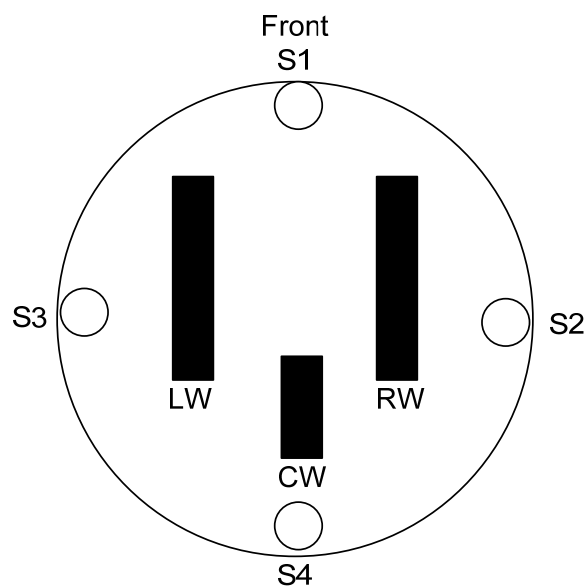

Figure Q2[a]
- Q2.** As shown in Figure Q2[a], a robot contains four sensors, S1, S2, S3 and S4 around the body circumference. Each sensor reads the distance to the nearest object in its direction. The range of value for the sensors is 0 to 10. The higher value indicates that an object is close. The movement of the robot is controlled by speed controller consists of two wheels, Left wheel (LW) and Right wheel (RW). Both wheels are moved together. The speed of each wheel ranges from -10 to 10. Positive value of the speed means moving forward while negative value of the speed means moving backward. A third wheel (CW) is installed to control the direction of the robot. CW receives value between -90 to 90, indicating the degree of turning. A negative value of CW will turn the robot to the left while a positive value will turn the robot to the right. The robot needs to move away from any obstacle as far as possible.